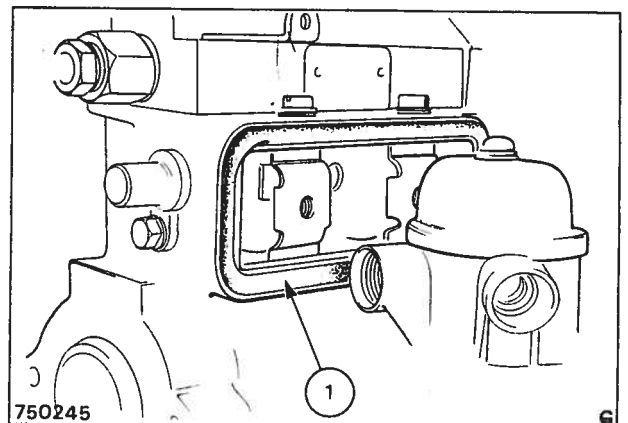

Fig. 34 Renewing the inspection cover gasket
3. Place a new inspection cover plate gasket in the recess in the housing and assemble the plate, securing with the two bolts screwed into the retainers, Fig. 34.